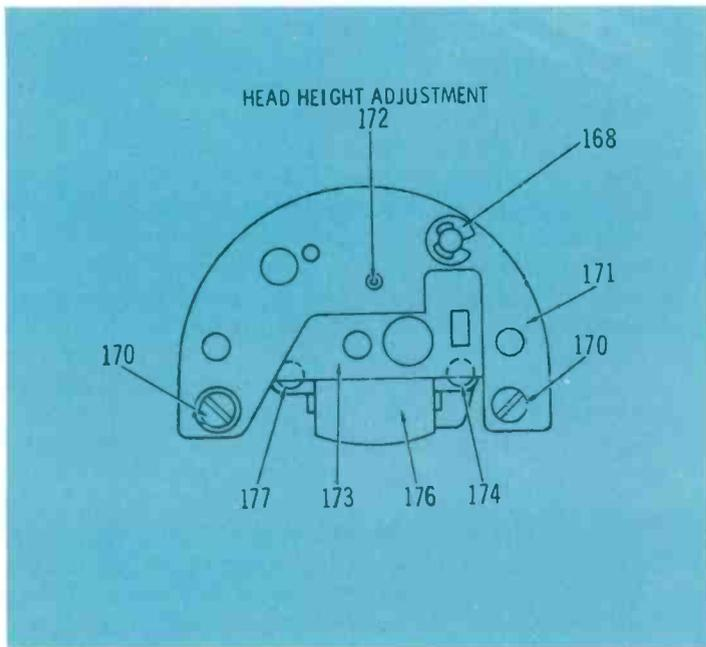

Fig. 3—Head assembly adjustment points.
There are times when head adjustments are necessary. Instructions for making head height and azimuth on the Zenith 81Z, for example, are as follows (see Fig. 3), 1. Thread the recorder with tape. 2. Push tape drive tab to START position. Place finger on roll pin in record pressure pad and pull back pressure pad. Tape should move smoothly past the head. 3. Use a #2 Bristol wrench and adjust head height by turning head adjustment screw (172). 4. Adjust head height until top of pole piece is even with tape.